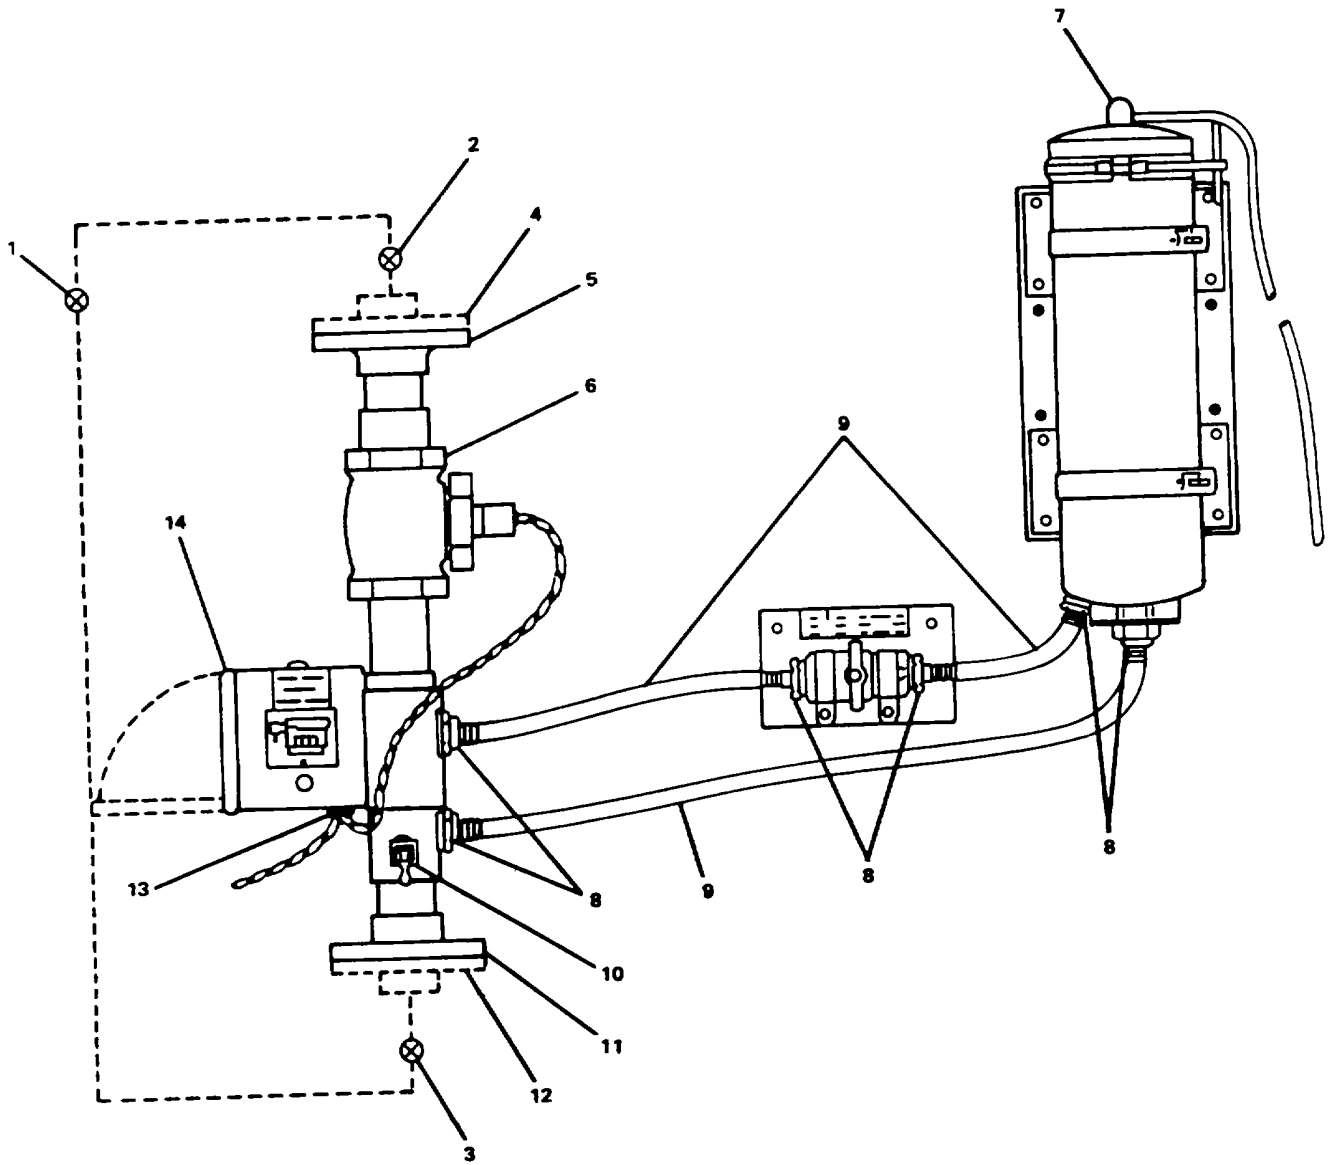
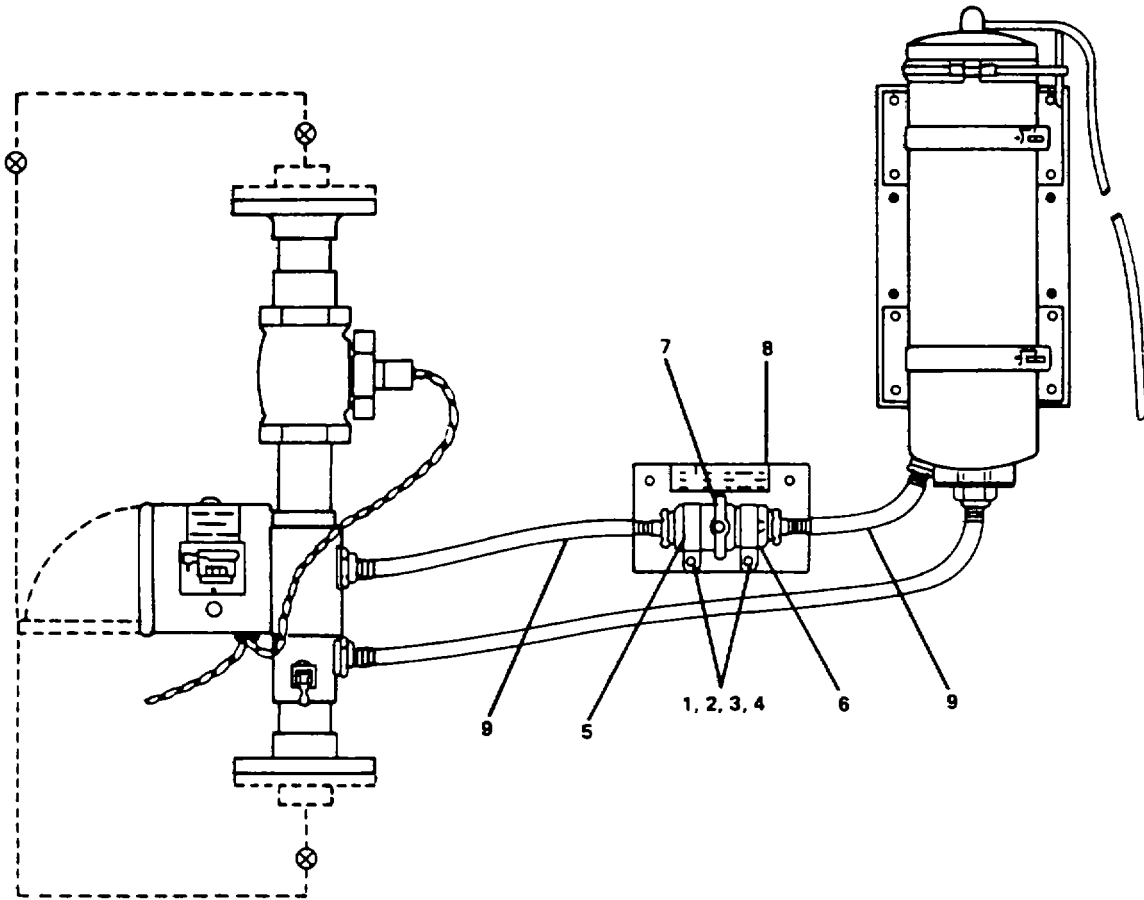
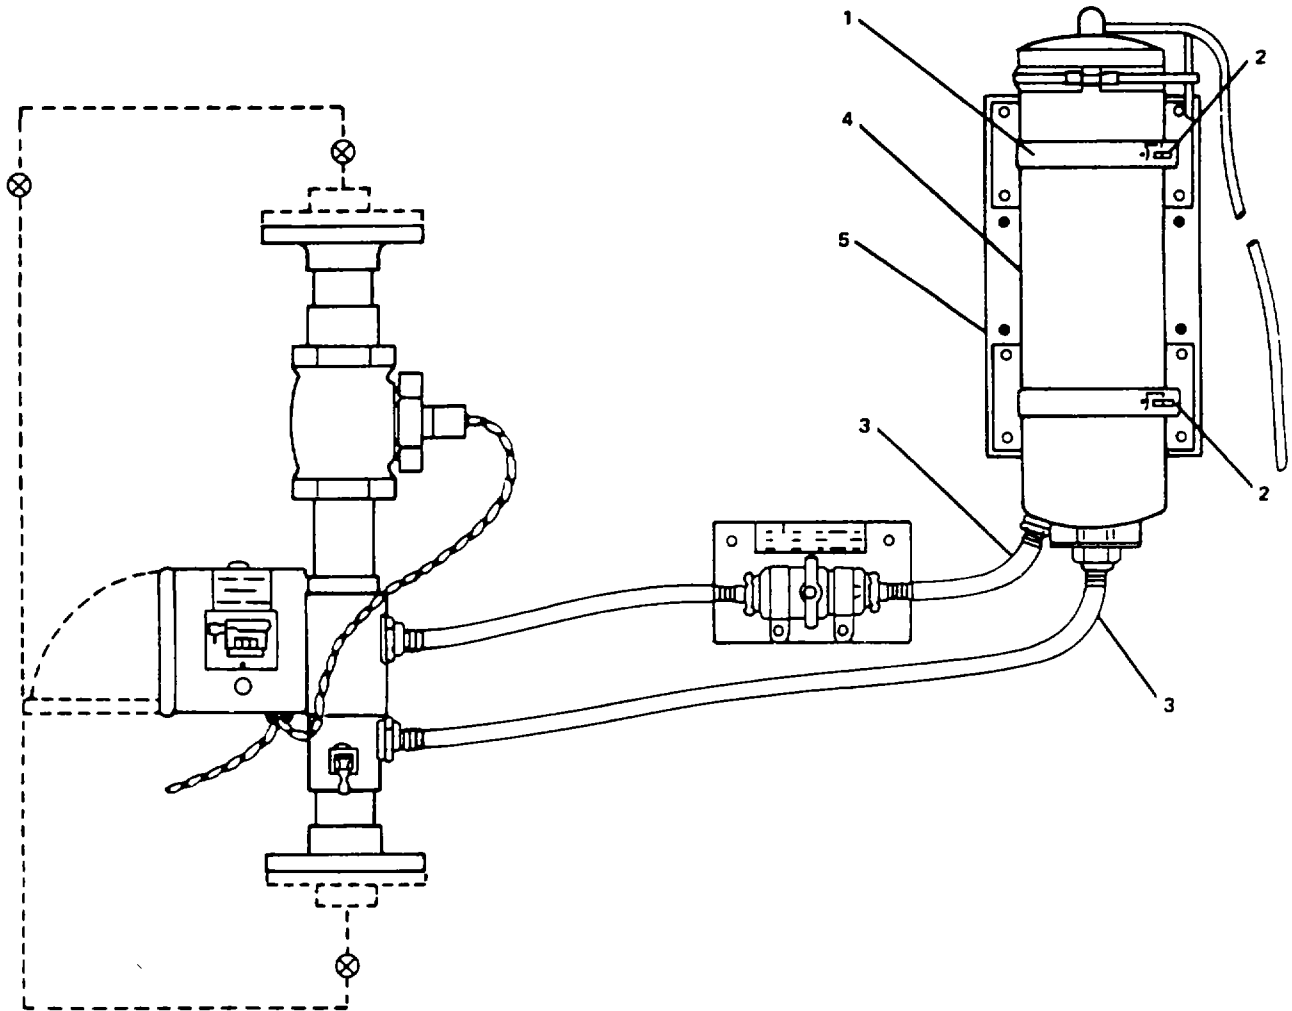

Figure 2-109. Remove Bypass Header Assembly.
Figure 2-110. Remove Dual Feed Valve Assembly.
Figure 2-111. Remove Feeder Assembly.
- a. Open PW-36, BYPASS-BROMINATOR valve (1, Figure 2-109).
- b. Close PW-37, BROMINATOR INLET valve (2) and PW-38, BROMINATOR OUTLET valve (3). Tag valve "Out of Service Do Not Operate. "
- c. Place pall under test tap valve (10). Open test tap valve (10) and press air bleeder valve (5) on the feeder top assembly to allow water to drain from plumbing.
- d. Remove screws and open electrical box cover (14) and tag and disconnect leads from terminal 1 and 2 of terminal board inside case.
- e. Loosen strain relief (13) at bottom of case and disengage input leads from case assembly.
- f. Loosen hose clamps (8) and disconnect tubing (9).
- g. Unbolt bypass header assembly inlet (5) and outlet (11) flanges from system flanges (4, 12)
- h. Remove bypass header assembly (6).
- a. Disconnect tubing (9, Figure 2-110) from dual feed valve (7).
- b. Remove screws (1), nuts (2), washers (3) and spacers (4).
- c. Remove clamps (5, 6) securing dual feed valve (7) to bracket (8).
- a. Disconnect tubing (3, Figure 2-111) from feeder assembly (4).
- b. Loosen T-nuts (2).
- c. Remove V-bands (1).
- d. Remove feeder assembly (4) from support (5).
- a. Position feeder assembly (4, Figure 2-111) on support (5).
- b. Fasten V-bands (1) and secure with T-nuts (2).
- c. Connect tubing (3) to feeder assembly (4).
- a. Position dual valve assembly (7, Figure 2-110) on bracket (8).
- b. Replace clamps (5, 6) and secure with screws (1), nuts (2), washers (3) and spacers (4).
- c. Connect tubing (9) to dual feed valve (7).
- a. Position bypass header assembly (6, Figure 2-109) between system flanges (4, 12).
- b. Line up inlet flange (5) with system flange (4), replace bolts but do not tighten.
- c. Line outlet flange (11) with system (12), replace bolts and tighten. Also tighten bolts on inlet flange at this time.
- d. Replace tubing (9) and secure to applicable assembly with hose clamps (8).
- e. Insert leads through strain relief (13) and secure strain relief.